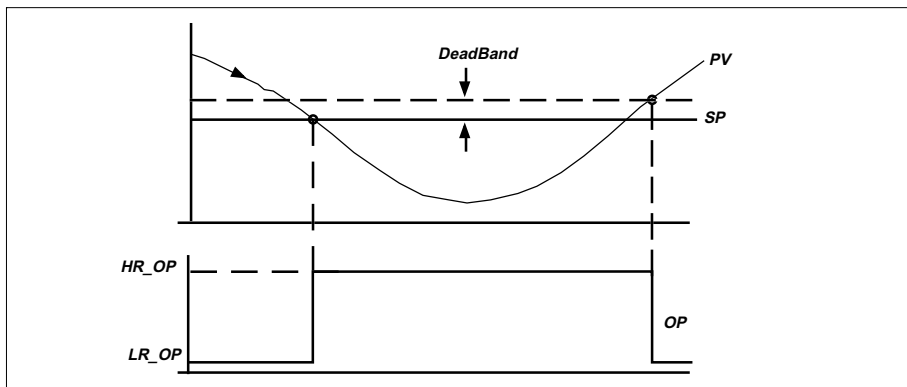
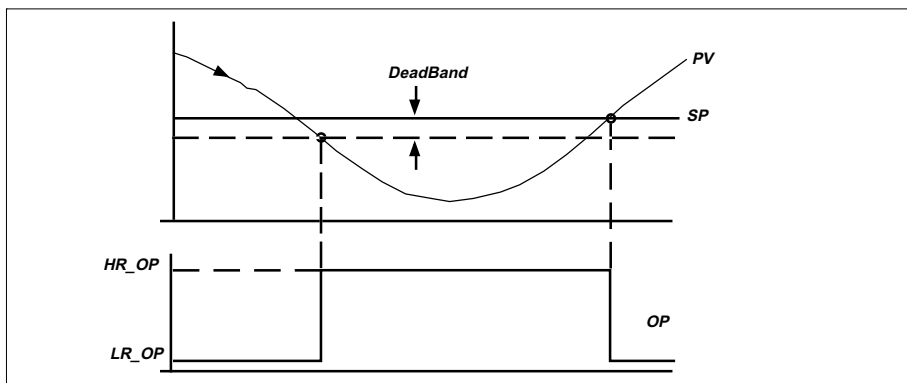
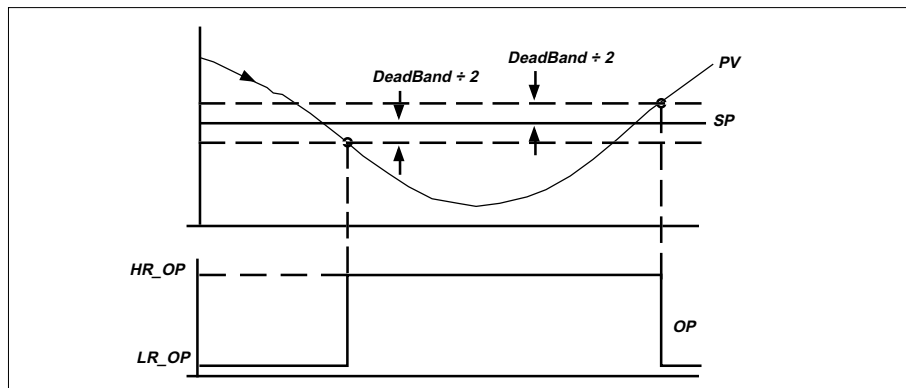

Figure 34 3_TERM block on/off control - HiDband TRUE, LoDband FALSE
Figure 35 3_TERM block on/off control - HiDband FALSE, LoDband TRUE
Figure 36 3_TERM block on/off control - HiDband TRUE, LoDband TRUE
- **HiDband, LoDband.** Select a 'high' deadband (Figure 34) or a 'low' deadband (Figure 35), respectively, in on/off control mode, of width specified by *DeadBand*. With both bits TRUE, a pair of deadbands operate about *SP* (Figure 36). Both bits FALSE disables the deadband completely.
DeadBand. Specifies the breadth of the deadband(s) to be applied when the block is in on/off control mode. *Options.HiDband* and *Options.LoDband* determine how the deadband(s) operate(s) about *SP*, see Figure 34, Figure 35, and Figure 36.